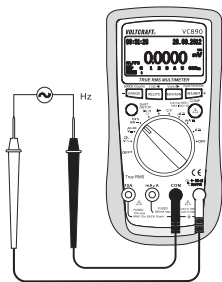

Fig. 4
1. Turn on the DMM and select the measuring range "mV  $\sim$  Hz %". Press the SHIFT/SETUP button (3) until "Hz" appears in the display.
2. Insert the red test lead in the  $\sim$ CHZV $\Omega$  measuring socket (7), the black test lead in the COM measuring socket (8) (Fig. 4).